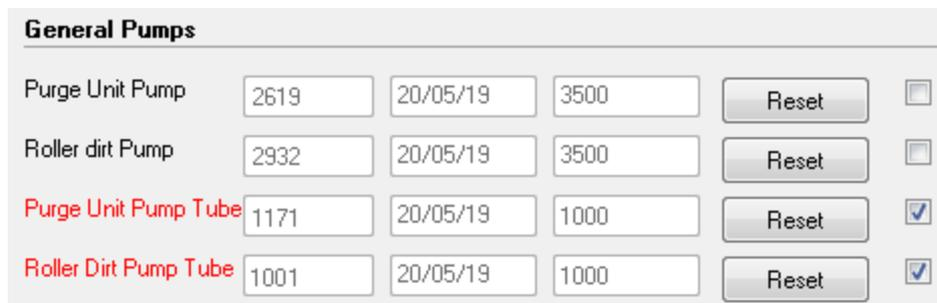

Figure 4-143 Pump Maintenance Counters
16. Open the *Maintenance Counters* screen, scroll down to the *General Pumps* section, and click **Reset** for the relevant counter(s) (see Figure 4-143 on page 4-96).